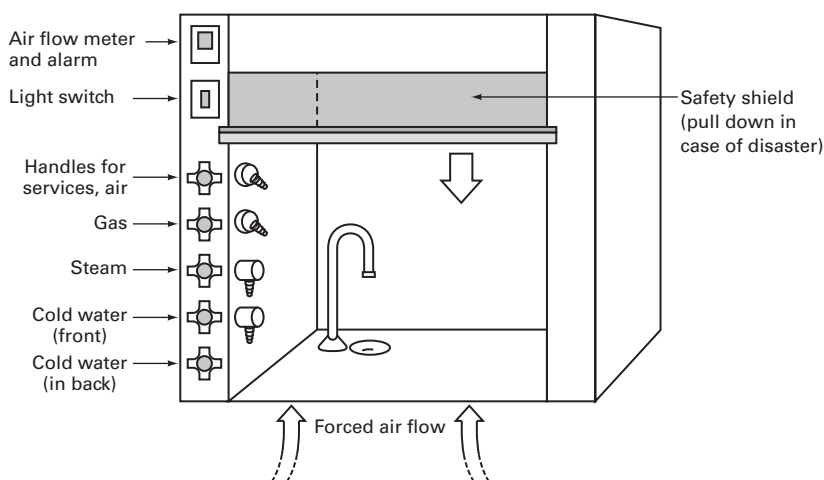

FIGURE 1.1 A typical hood.
Try a hot plate, try a heating mantle (see Chapter 17, "Sources of Heat"), but try to stay away from flames. Most of the fires I've had to put out started when some bozo decided to heat some flammable solvent in an open beaker. Sure, there are times when you'll *have* to use a flame, but use it away from all flammables and in a hood (Fig. 1.1), and only with the permission of your instructor.
13. **Work in the hood.** A hood is a specially constructed workplace that has, at the least, a powered vent to suck noxious fumes outside. There's also a safety glass or plastic panel you can pull down as protection from exploding apparatus (Fig. 1.1). If it is at all possible, treat every chemical (even solids) as if toxic or bad-smelling fumes can come from it, and carry out as many of the operations in the organic lab as you can *inside a hood*, unless told otherwise.